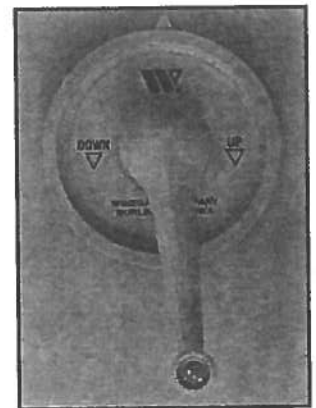

Figure 4-8. TV Antenna Crank Handle
The Allegro Bus motor home is equipped with a retractable antenna (Figure 4-8) for television (TV) reception of all VHF (i.e., channels 2-13) and UHF (i.e., channels 14 upwards) channels. To deploy the antenna for proper reception of TV signals, turn the TV-antenna crank clockwise (CW) to raise the antenna; this should take about 10-15 turns until some resistance is noted.